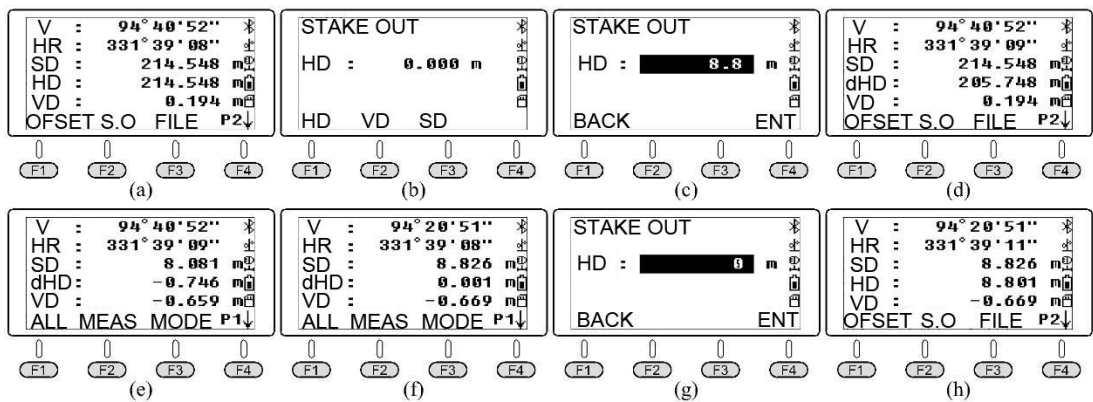

Figure 2-31 Used "S.O" function to stakeout and input the horizontal distance as 8.8m
Used to stakeout slope distance, horizontal distance and height difference. In the function menu on page P2 of Distance Mode [Figure 2-31(a)], press **(F2)** (S.O) to enter the interface shown in Figure 2-31(b). Take stakeout for horizontal distance as an example. Press **(F1)** (HD) **(8)** **(.)** **(8)** to input the horizontal distance as 8.8m, and press **(F4)** (OK). Turn the alignment part to make horizontal angle to be 331°39'09"[Figure 2-31(d)]. Move the prism to the direction of alignment axis of the telescope, and tilt the telescope to aim at the center of the prism. Presses **(F4)** to turn to the function menu on page P1, and then press **(F2)** (Measure). The case results are shown in Figure 2-31(e).
As what displayed in the screenshot, dHD = Measured HD - Planed HD =-0.746m, indicating that the prism needs to move 0.746m away from the instrument along the alignment axis. After the prism is moved, tilt the telescope to aim at the center of the prism again and press button **(F2)** (Measure). The result is shown in Figure 2-31(f).
Execute the command Stakeout. After the horizontal distance is inputted, the screen displays the content. The screen of the original "HD"[Figure 2-31(a)] is switched to the column of "dHD" [Figure 2-31(d)]. If it is needed to recover the content what shown in column "HD", it shall execute the command "Stakeout/HD", and then input the HD of the stakeout to be 0. The operation processes are shown in Figure 2-31(g) and Figure 2-31(h).